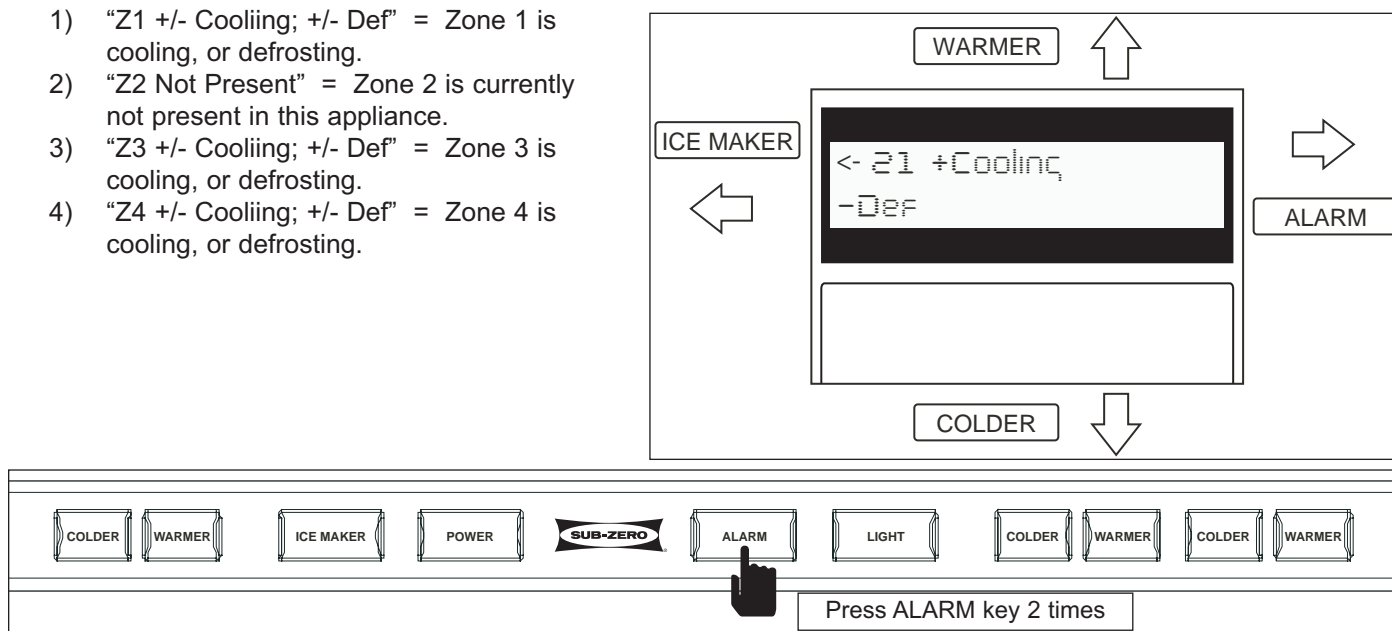

Figure 3-48. Key Strokes and Tech Display - Operational Status, Zone Status
1. After initiating Service Mode, press COLDER key one (1) time; "Service Mode, 2) Op Status" appears on display.
2. Press ALARM key two (2) times (See Figure 3-48), and it is now possible to work through the following four (4) levels: